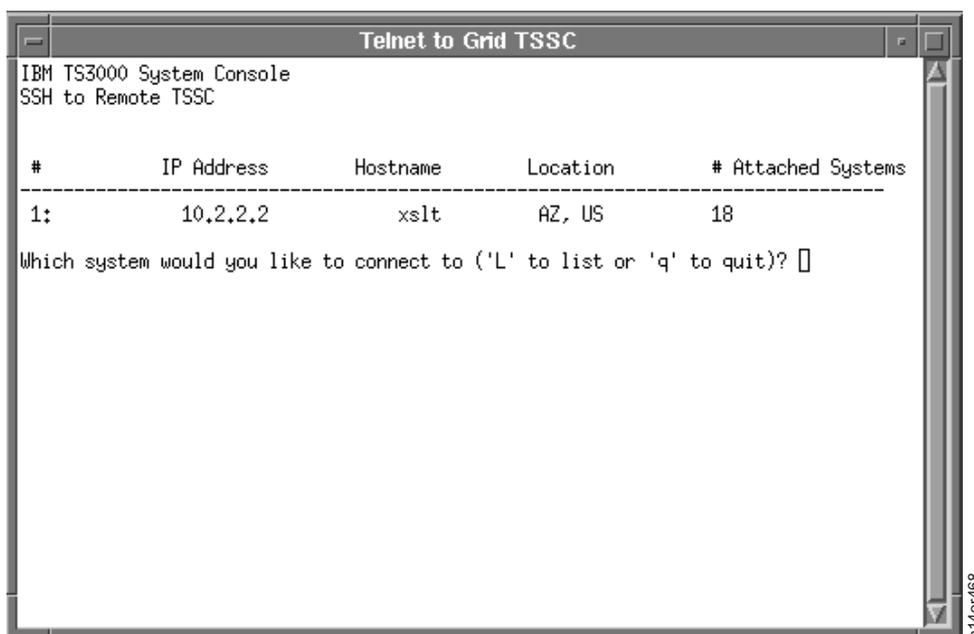

Figure 152. Telnet to Grid TSSC
2. From the Main Menu, select **System Console Actions > Telnet to Grid TSSC**. You see the screen shown in Figure 152. Information about each Grid system as it is available, including IP address, hostname, and location are displayed.